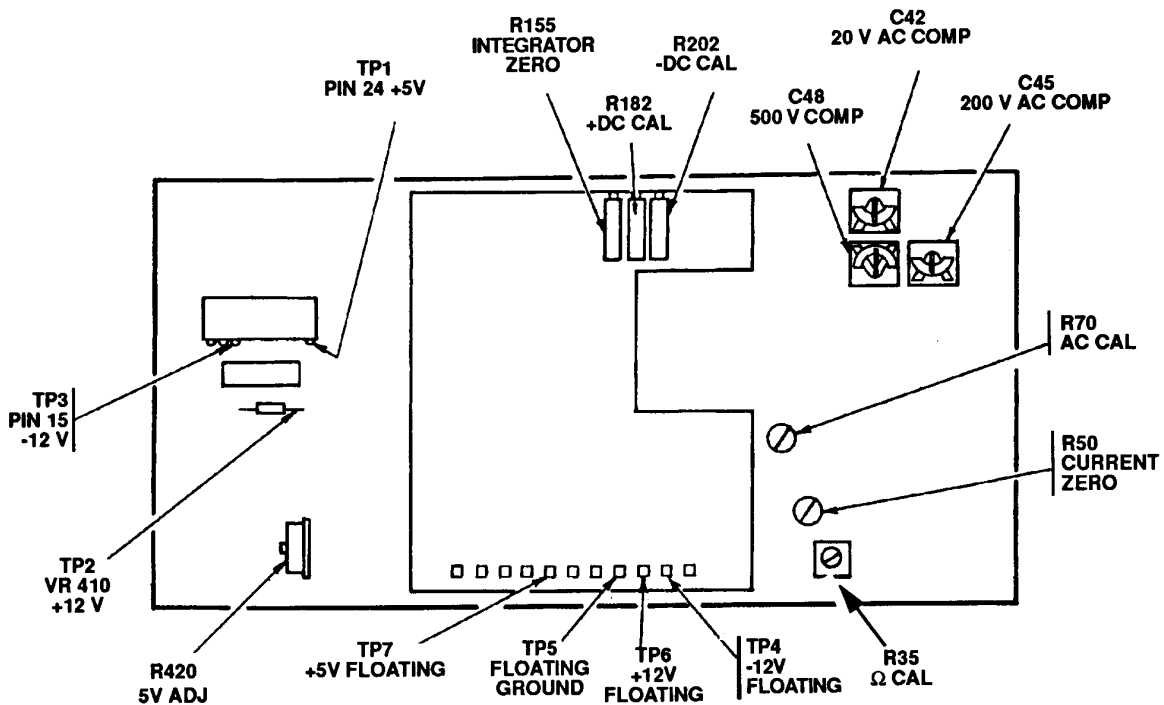

Figure 1. Tektronix, Type DM 501 - left side view.
**b. Adjustments.** Adjust R155 INTEGRATOR ZERO (fig. 1) until TI indicates all zeros.
- (1) Connect calibrator **OUTPUT** to TI **INPUT HI** and **LO** terminals.
- (2) Set **RANGE/FUNCTION** switch to **200K OHMS**.
- (3) Set calibrator for a 190 kΩ output. Adjust calibrator's output adjustment control for a calibrator control display reading equal to the TI's indication. The calibrator's control display **ERROR** indication will be  $\pm 0.31$  percent; if not, perform **b** below.
- (4) Repeat technique of (2) and (3) above using values listed in table 4. Calibrator's **ERROR** display will be within the limits specified.
**b. Adjustments.** Adjust R35Ω CAL (fig. 1) for a T1 indication equal to calibrator's displayed value for 190 kΩ (R).
- (2) Set TI **RANGE/FUNCTION** switch to **2 DC mA**. If TI does not indicate .0000, perform **b** below.
- (3) Set TI **RANGE/FUNCTION** switch and calibrator output as listed in table 5. TI will indicate within the limits specified.
**b. Adjustments.** Adjust R50 CURRENT ZERO (fig. 1) until TI indicates .0000 (R).
(1) Connect digital multimeter between TP 1 PIN 24 +5V (fig. 1) and chassis ground. If digital multimeter does not indicate between 4.9 and 5.1 V dc, perform **b** below.
(2) Connect digital multimeter positive lead to TP 2 VR 410 +12 V (fig. 1). Digital multimeter will indicate between 11.0 and 13.0. V dc.
(3) Connect digital multimeter positive lead to TP 3 PIN 15 -12 V (fig. 1). Digital multimeter will indicate between -11.4 and -12.6 V dc.
(4) Connect digital multimeter positive lead to TP 6 +12 V FLOATING (fig. 1) and negative lead to TP 5 FLOATING GROUND. Digital multimeter will indicate between +11.4 and +12.6 V dc.
(5) Move digital multimeter positive lead to TP4 -12 V FLOATING. Digital multimeter will indicate between -11.4 and -12.6 V dc.
(6) Move digital multimeter positive lead to TP 7 +5 V FLOATING. Digital multimeter will indicate between +4.5 and +5.5 V dc.
**b. Adjustments.** Adjust R420 5 V ADJ (fig. 1) until digital multimeter indicates +5.00 V dc (R).